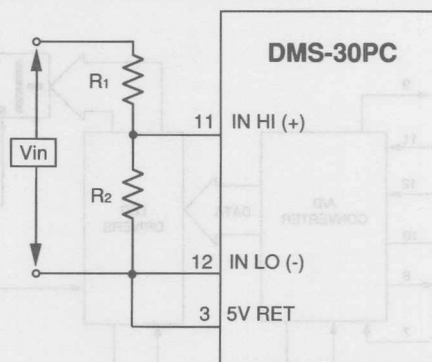

Figure 2. Simple Attenuation Circuit for Scaling Input Voltages
**Engineering Scaling** - One of the most common physical parameters measured with the DMS-30PC is voltage. For measuring voltages larger than the full scale input range of the meter, the input signal must be attenuated. The simple voltage divider circuit shown in Figure 2 allows scaling the input to a voltage that is within the range of the DMS-30PC model that you are using.